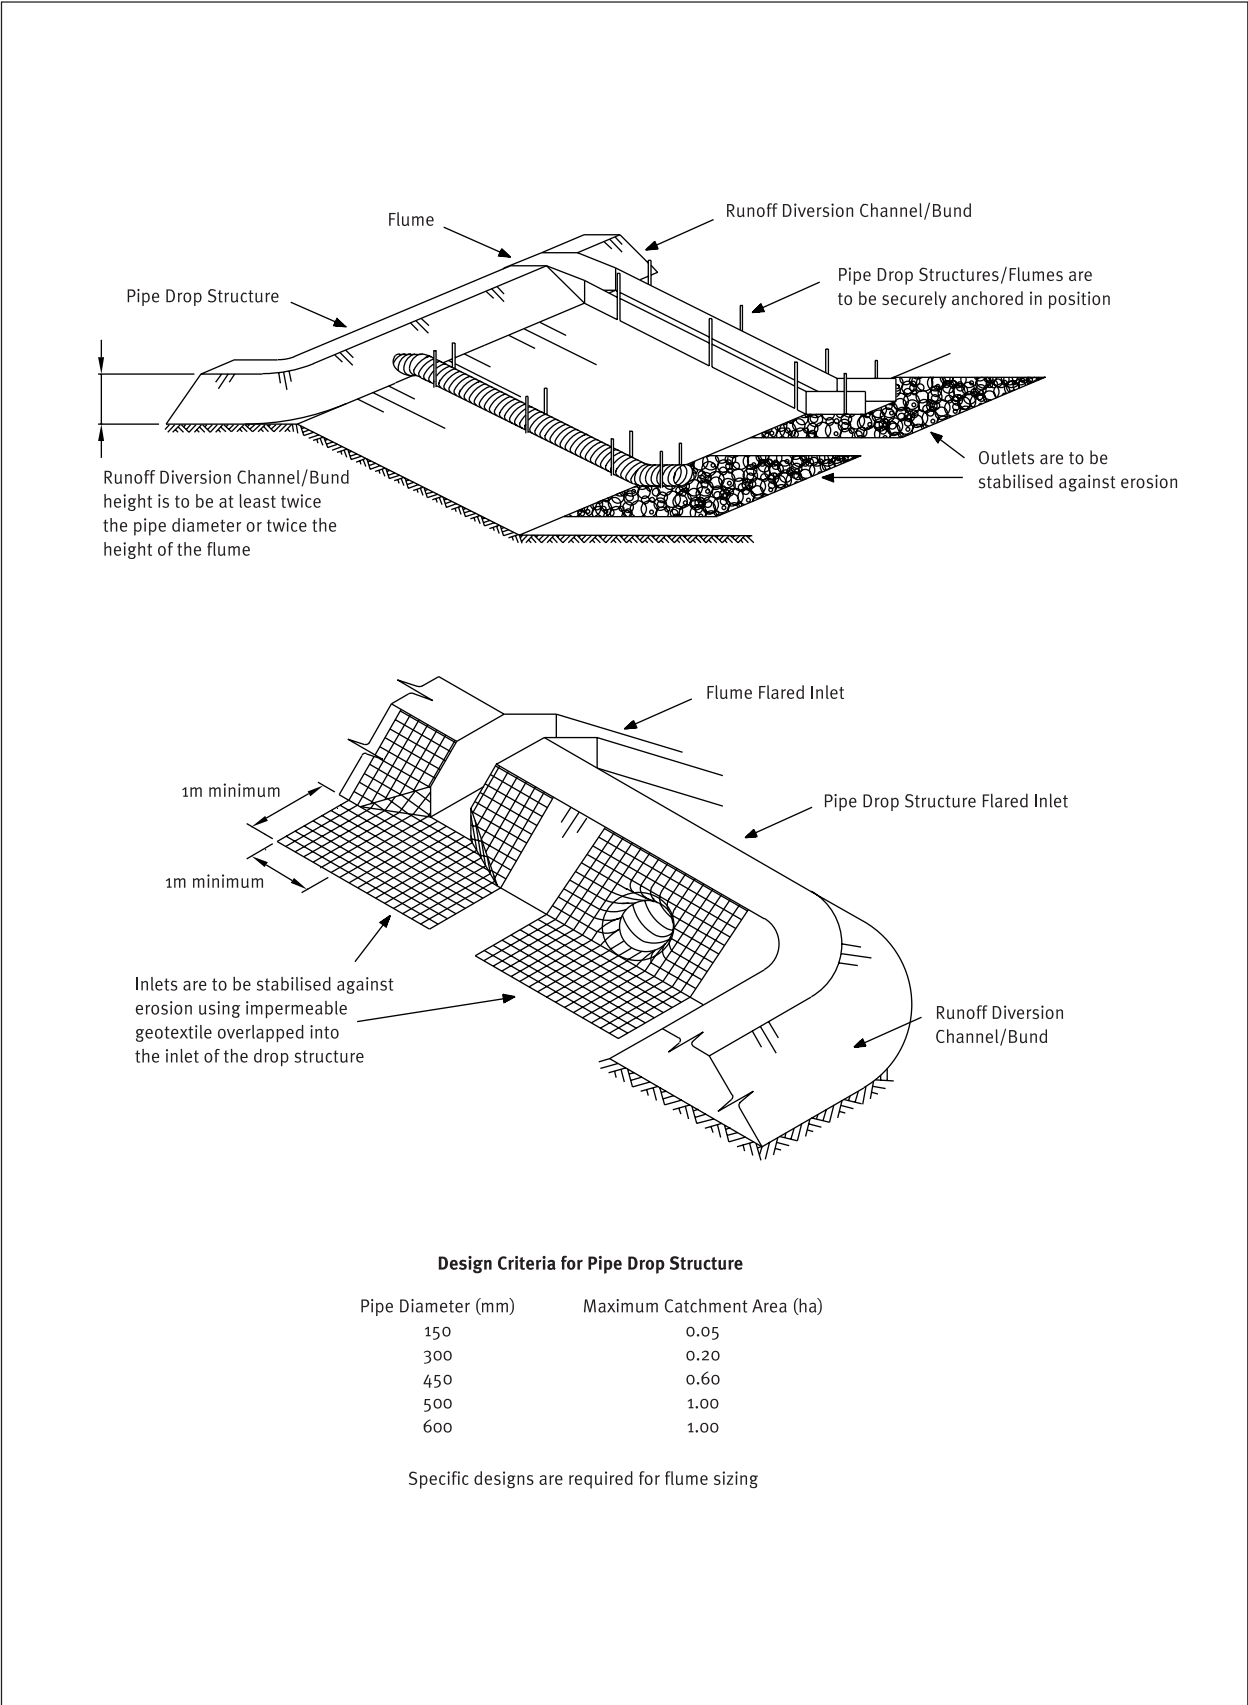

Figure 1.9 Pipe Drop Structure
- o Use of the following Design Criteria for Pipe Drop Structure, is shown in Figure 1.9.